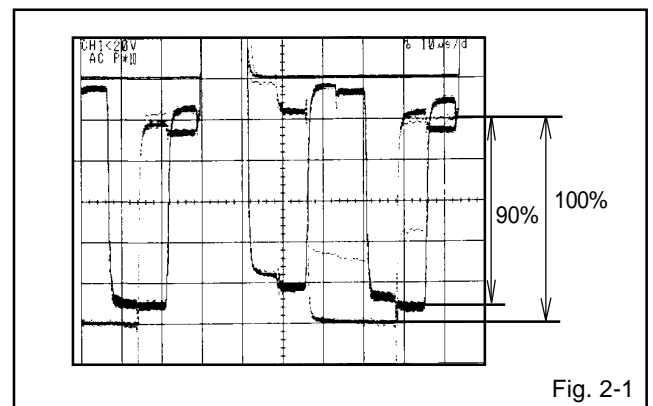

Fig. 2-1
6. Press the VOL. +/- button on the remote control until the red color level is adjusted to $90 \pm 10\%$ of the white level. (**Refer to Fig. 2-1**)